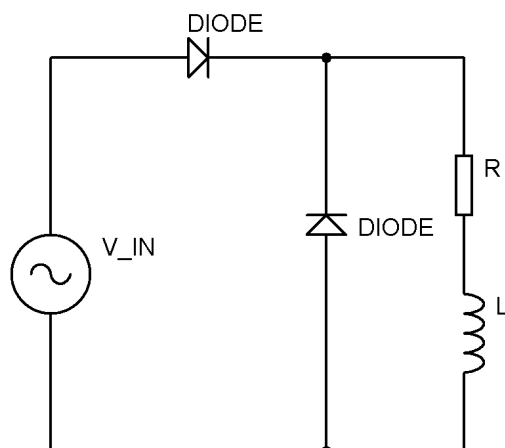

Figure 3. Half bridge rectifier with inductive load and free-wheeling diode
1. Arrange the circuit as shown in Figure 3.